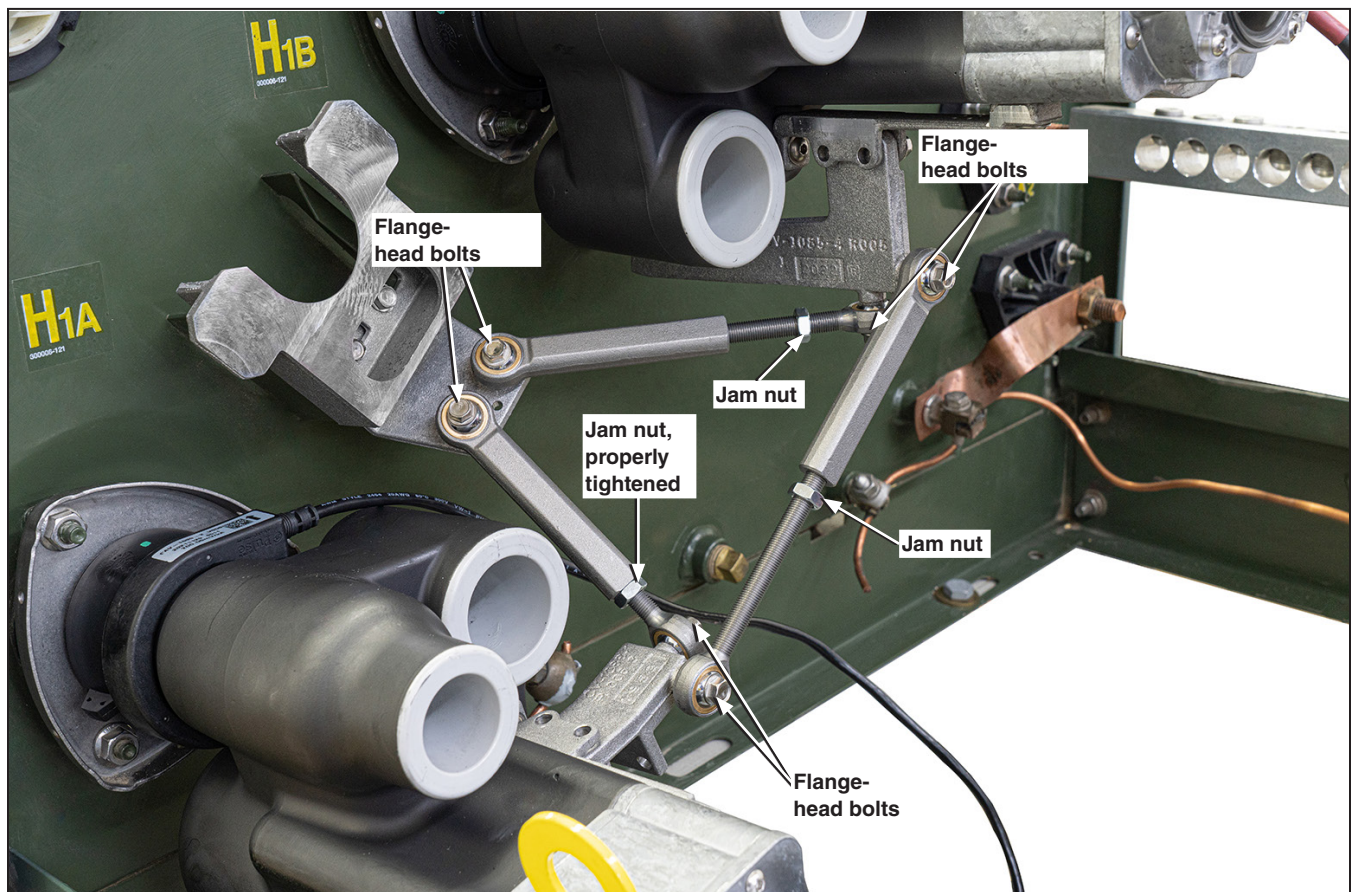

Figure 27. Tighten all bolts and jam nuts.
- STEP 5.** Tighten the three jam nuts, one on each of the two adjustable links and one on the cross brace link using the  $\frac{9}{16}$ -inch combination wrench hand tight. See Figure 27.